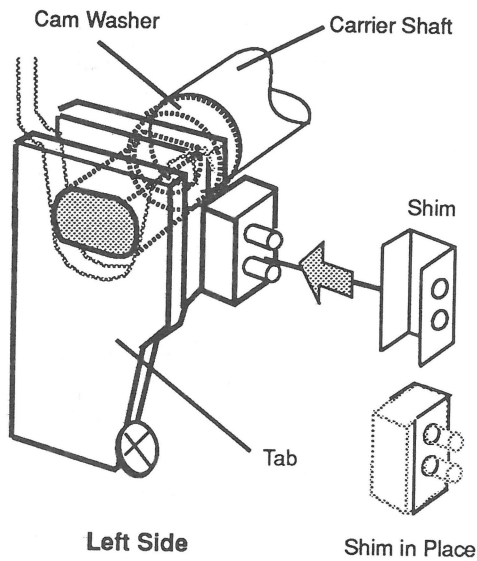

Figure 5-4
2. Push the carrier shaft toward the rear of the machine. Using needlenose pliers, install the shim on the left side of the carrier bar by inserting the two protruding tabs into the holes on the shim **(Figure 5-4)**. Slide the shim into position. Release the carrier shaft.
1. Look at the left side of the carrier shaft **(Figure 5-4)**.